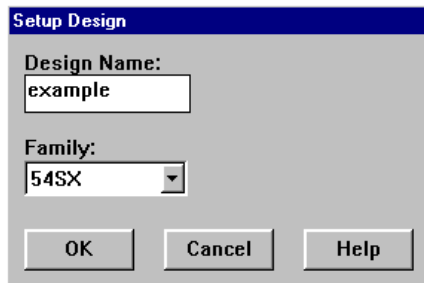

Figure 6-3. Setup Design Dialog Box
If you selected an SX family device, you will not see the dialog box displayed above. An SX family device may be upgraded to a compatible SXA family device without re-compiling. If you chose an SX device in the Setup Design dialog box (Figure 6-3), you will see the SX/SXA Device Selection dialog box displayed below in Figure 6-5.
- 1. Choose the Setup Design command from the Options menu in the Designer Main window.** The Setup Design dialog box is displayed (see Figure 6-3 on page 65).